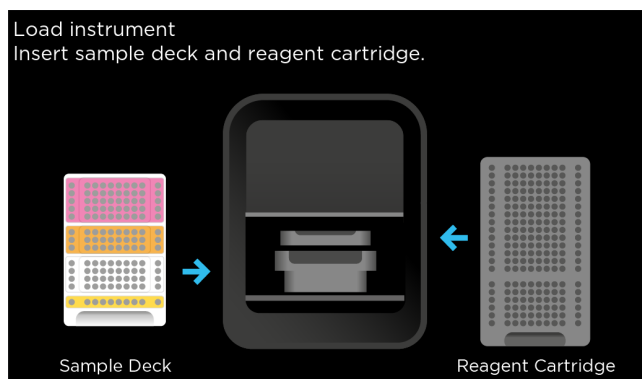

Figure 10. Insert sample deck and reagent cartridge.
5. Once the door is closed, the reagent cartridge and sample deck barcodes are scanned to ensure all consumable components are present and determine the protocol to run (Figure 10).